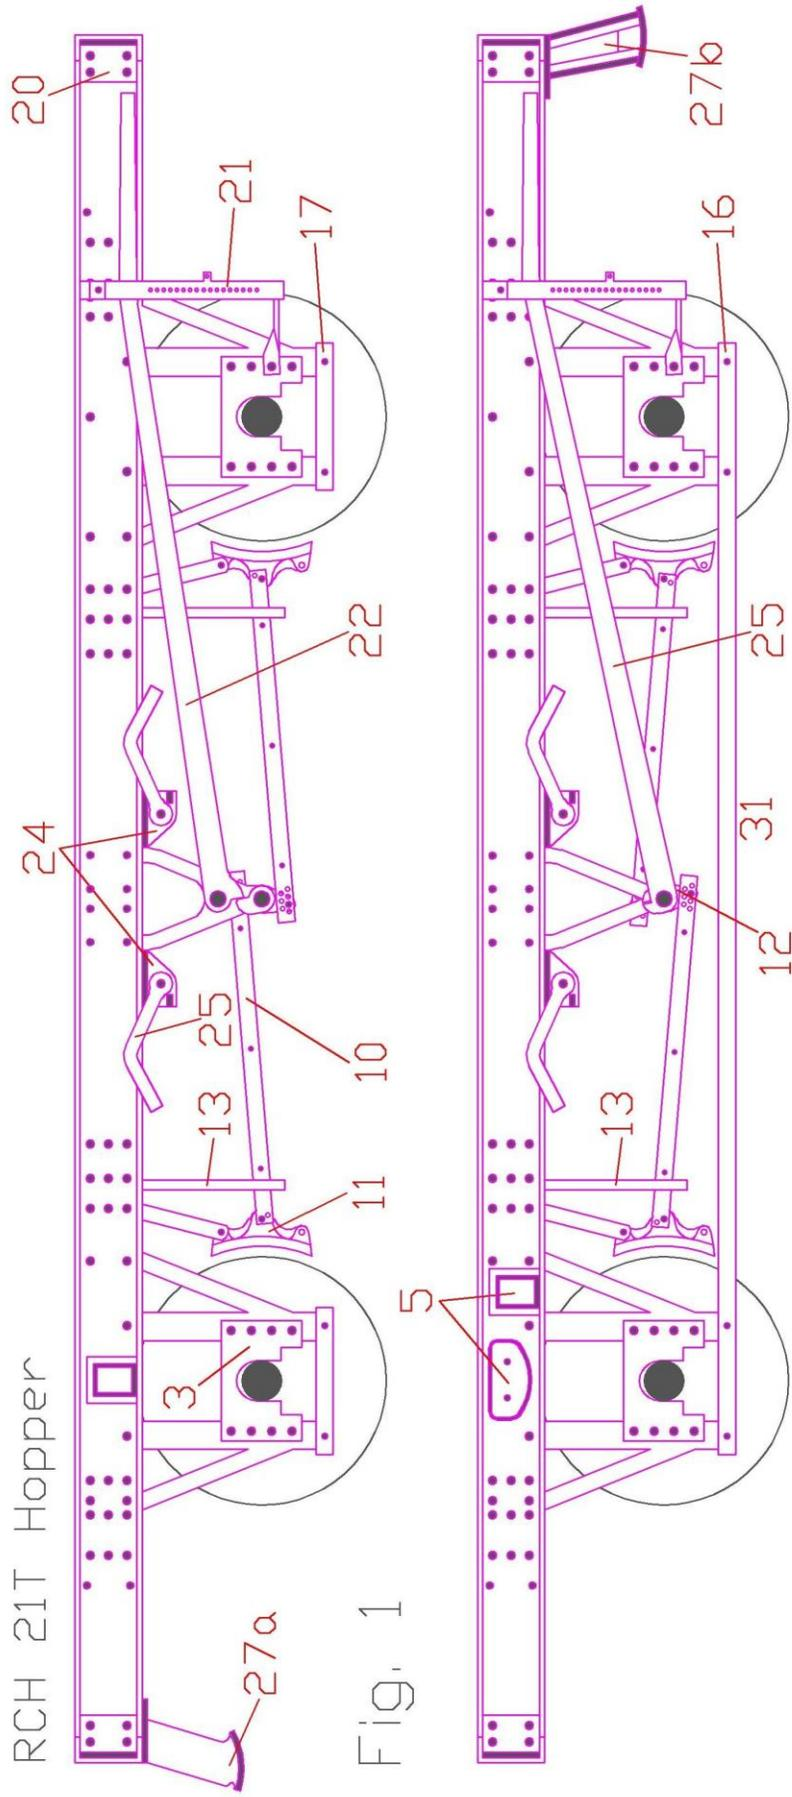

Fig. 1
Locate the solebar detailing overlay on the axleguard/solebar assembly and tack solder in place. Note that there is a right a correct side for the solebar detailing on the chassis, i.e. the rivets in the centre of the detailing should line up with the vees. See Fig. 1 if you are unsure. Do one solebar at a time and lightly solder in place once happy with the fit.
There are two tabs on each of the brake shoes that locate into slots in the axleguard/solebar assembly (2). You will need to angle the locating wings on the axleguard/solebar assembly in order to fit them. You may also need to remove the locating tab that goes towards the outside of the wagon. Locate the brake gear in place and then return the wing to its original position at 90° to the solebar. Solder in place against the wing and the longitudinal framing. Make sure that the brake shoes go on the correct side. Refer to prototype pictures, Fig.1 to be sure.